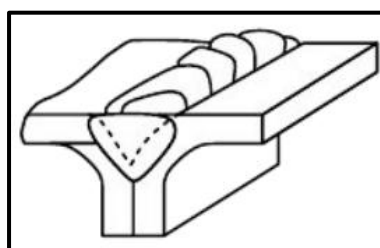

FIGURE 5.6
- 5.6 Sketch the weld symbol for the welded joint in FIGURE 5.6. (3)